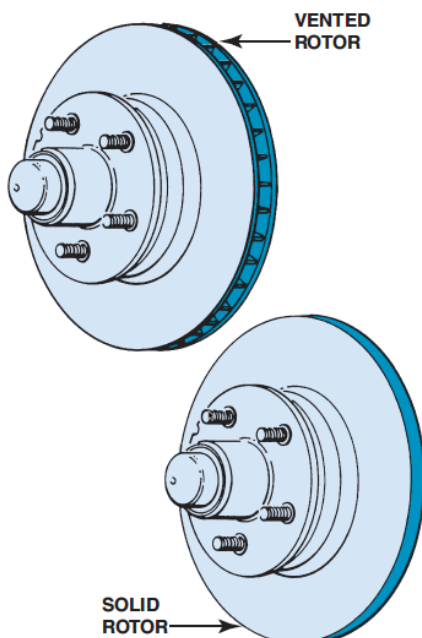

Figure 4. Types of brake rotors.
- The brake rotor provides the friction surfaces for the brake pads to rub against. The rotor, the largest and heaviest part of a disc brake, is usually made of cast iron because that metal has excellent friction and wear properties. There are two basic types of rotors, figure 4: